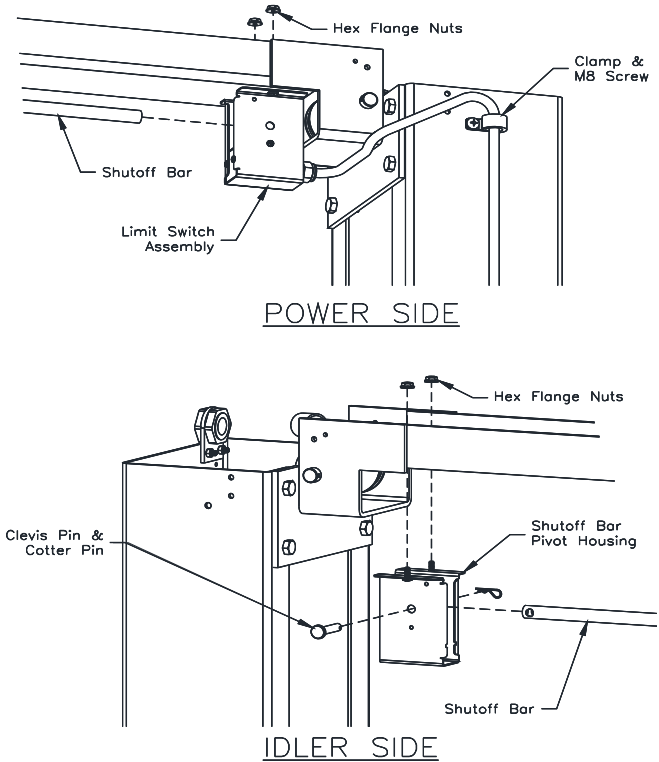

Fig. 3 - Limit Switch
- 12) Install Overhead Limit Switch and Shutoff Bar under the Overhead Beam as shown in **Fig 3**.